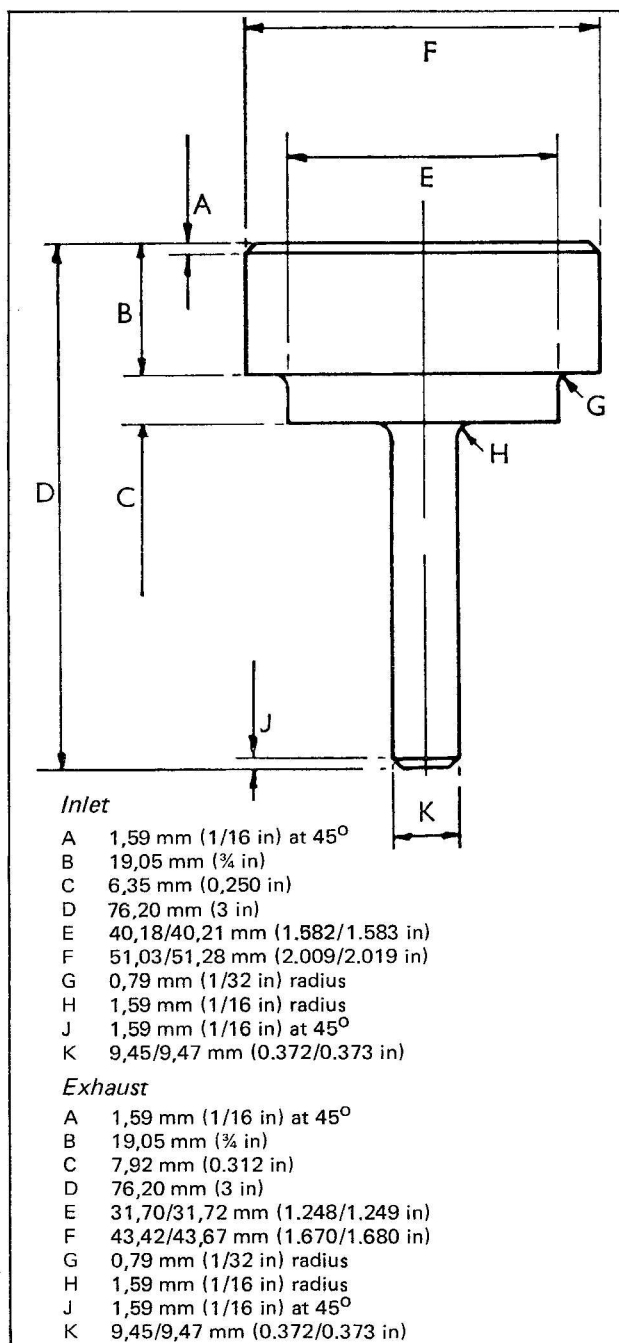

Fig. 9
2. Remove all machining swarf and clean the insert recess. Using the valve bore as a pilot, press the insert home using the inserting tool (Fig. 9).